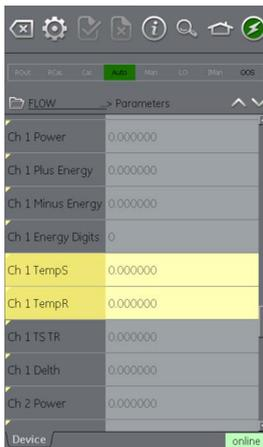

Figure 10-20: Function Finder
- Function Finder then shows the related Function Group in the device view, with all searched variables highlighted in yellow. Refer to Figure 10-20.